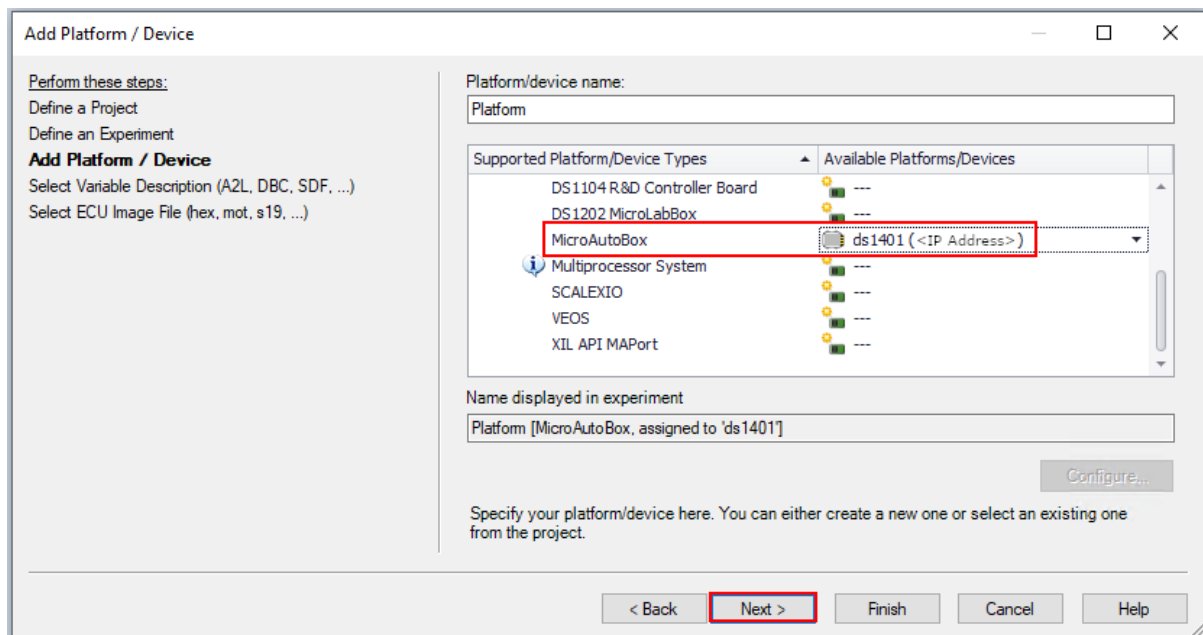

Figure 6.11: Select the MicroAutoBox platform
- 8) Select the platform to which you will deploy the generated executable (see Figure 6.11).